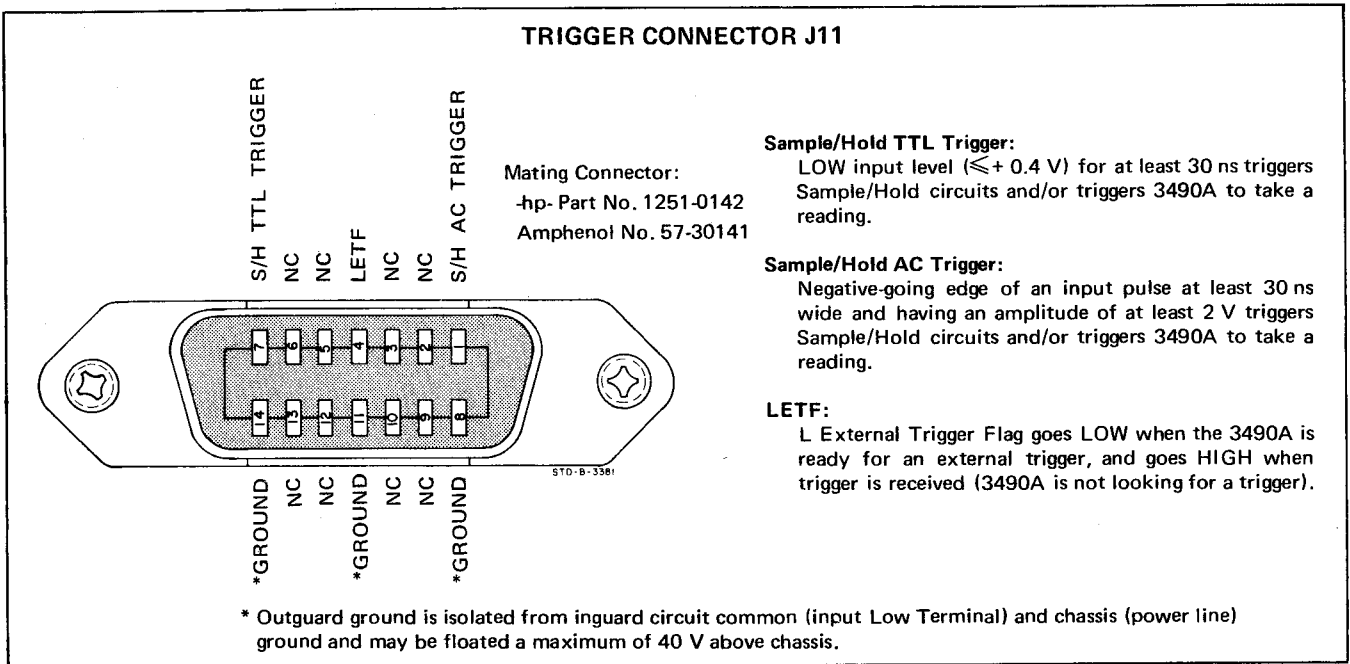

Figure 2-10. Trigger Connections, GPIB Option 030.
2-41. Figure 2-10 shows the rear panel Trigger connector, J11, and lists the External Trigger signals. The mating connector for J11 is -hp- Part No. 1251-0142 (Amphenol 57-30141).
2-45. Sample/Hold with GPIB Option 030. Figure 2-10 shows the Trigger Connector, J11, and describes the trigger signals. The mating connector is -hp- Part No. 1251-0142 (Amphenol 57-30141).
19. Trigger Input connector J11 (Option 030 or 045). See Figures 2-10 and 2-11.